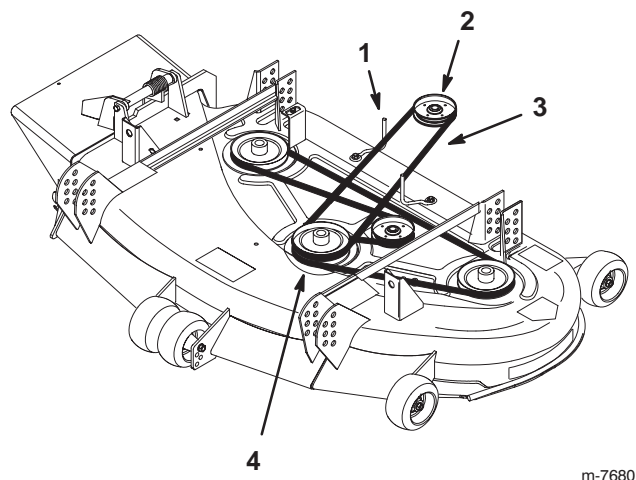

Figure 27
4. Remove the worn drive belt (Fig. 27).
5. Install the new drive belt onto the traction unit drive pulley and the top groove of the center spindle pulley (Fig. 27).